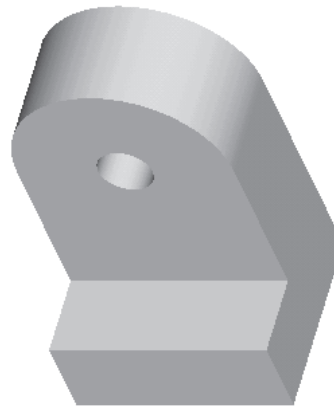

Figure 4-50 Second extruded feature with the base feature
- c. Select the sketching plane for the feature that is at the bottom of the base feature. This feature will be sketched on the same plane that was used by the base feature. Draw the sketch using the sketching tools, apply the dimensions and constraints, and then extrude the sketch to the given distance, see Figure 4-50.
8. Now, choose the **OK** button from the **PROTRUSION** dialog box to confirm the feature creation and exit the dialog box. The model orients on the screen as shown in Figure 4-50. You can also use the CTRL+middle mouse button to spin the model.